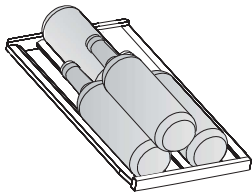
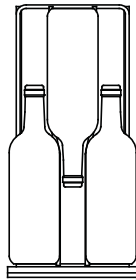

Fig A1
Fig A2
Wine Compartment (Right): It will be necessary to position the bottles alternately on the upper six shelves. This will allow for the storage of four (4) 750ml bottles on the top shelf (Fig. A) and three (3) bottles per rack on each of the four shelves (Fig. A1) and five (5) bottles on the bottom (Fig. A2) for a total storage capacity of 21 wine bottles.